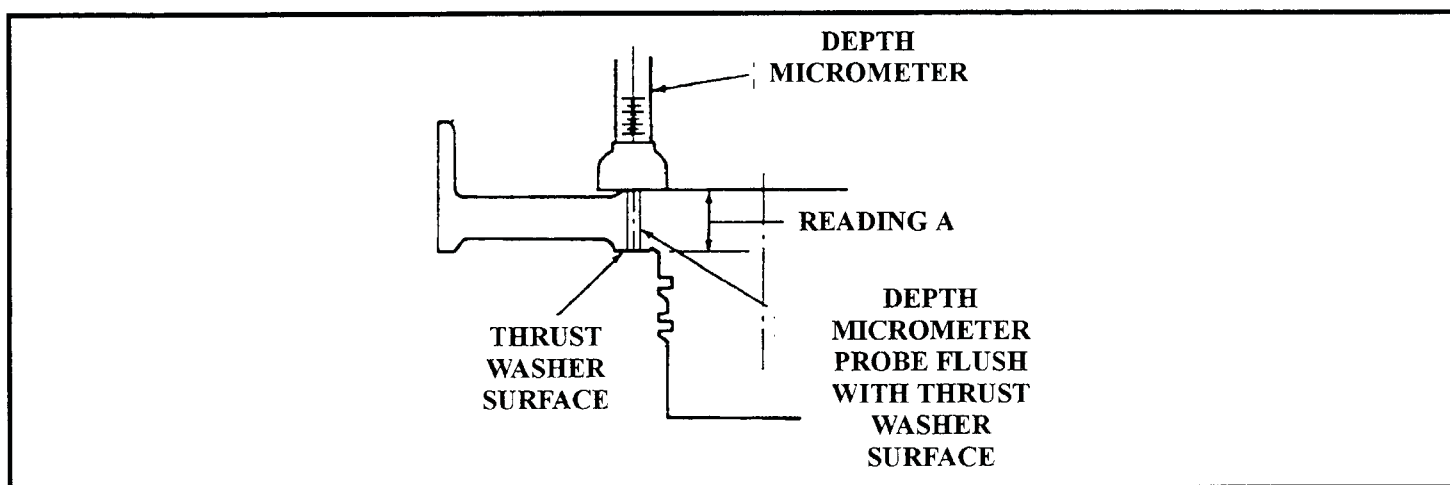
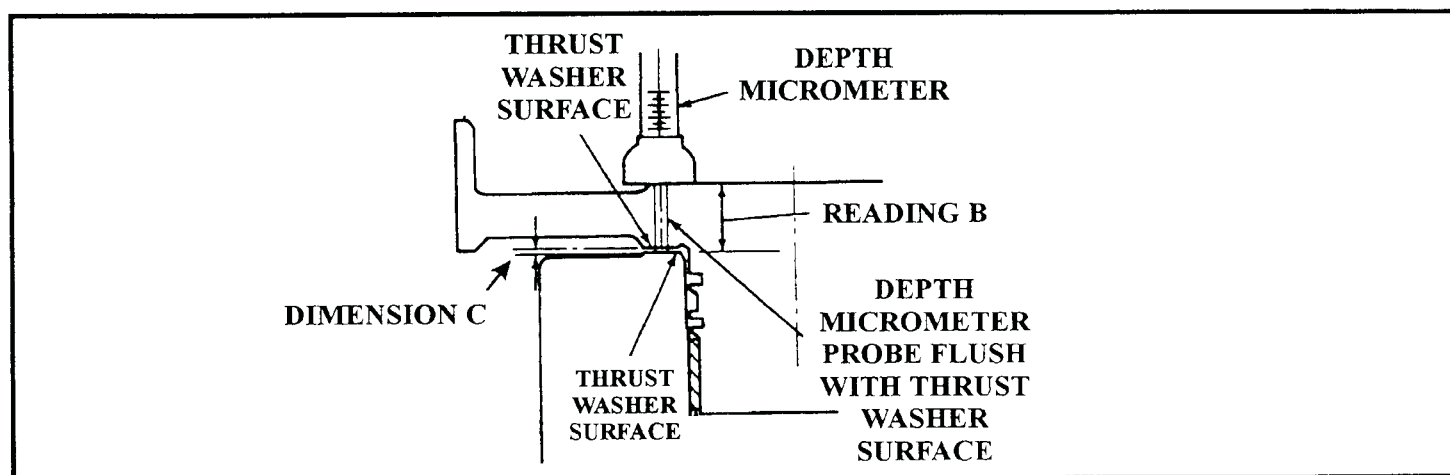

Figure 57
Figure 58
- (1) Place micrometer over drilled hole in the fabricated depth gauge fixture. Extend micrometer probe until it is flush with the thrust washer surface (See Figure 57). Record the measurement. This is reading A.
- (2) Install the depth gauge and center support fixture into the direct clutch drum and make sure it is fully seated in the transmission case. Gently wiggle the input shaft to allow the center support fixture to slide into the direct clutch drum using its own weight.
- (3) Place the micrometer over the drilled hole in the fixture. Extend the probe until it contacts the thrust washer surface of the direct clutch drum (See Figure 58). This is reading B.
- (4) Subtract reading A from reading B. The difference between readings is dimension C
- (5) Remove and rotate the fixture 180° and repeat steps 2 - 4.
- (6) Average the two dimension C readings to obtain the final dimension C. Locate the final dimension C reading in the following chart and select the proper thrust washer to obtain the proper end play (.012" - .022").